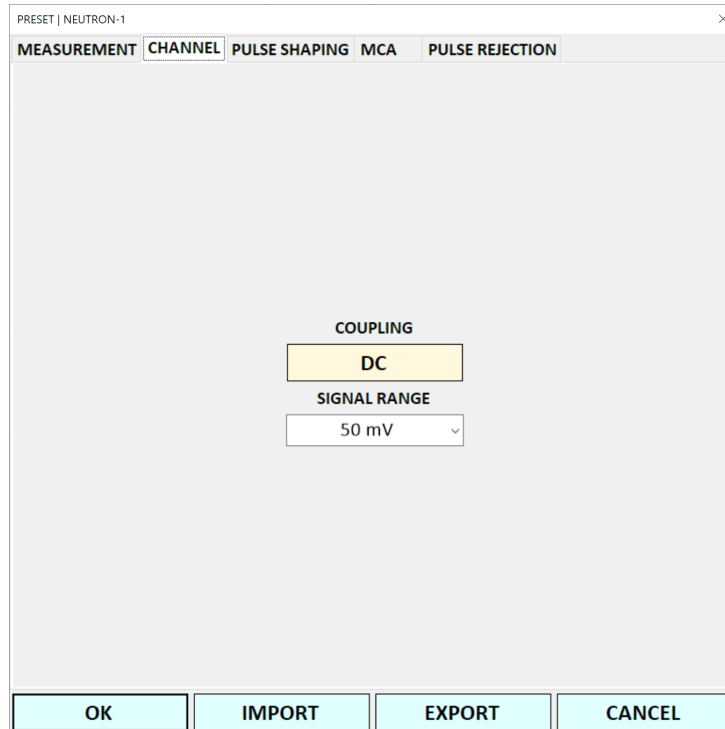

Fig. 29. The **CHANNEL** page of the **PRESET** dialog.
- **CHANNEL** - allows specifying the current channel's hardware configuration such as the **COUPLING** (AC or DC) and the **SIGNAL RANGE** in volts, Fig. 29;